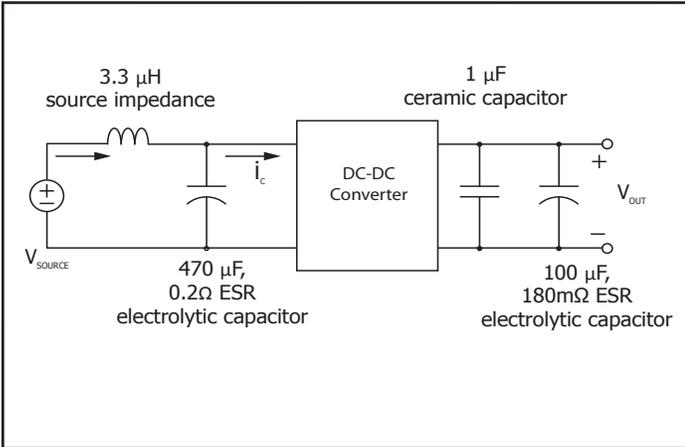

Figure 13: Test Set-Up Diagram, showing measurement points for Input Terminal Current Ripple (Figure 9) and Output Voltage Ripple (Figure 10).
**Figure 9: Input Terminal Current Ripple**,  $i_C$ , at full rated output current and nominal input voltage with a 100  $\mu$ F electrolytic capacitor (1 A/div). Bandwidth: 20 MHz. See Figure 13. Timescale: 4.00 $\mu$ s/div.
**Figure 10: Output Voltage Ripple**,  $V_{out}$ , at nominal input voltage and rated load current (100 mV/div). Load capacitance: 1  $\mu$ F ceramic and 100  $\mu$ F electrolytic capacitors. Bandwidth: 20 MHz. Timescale: 4.00 $\mu$ s/div. See Figure 13.